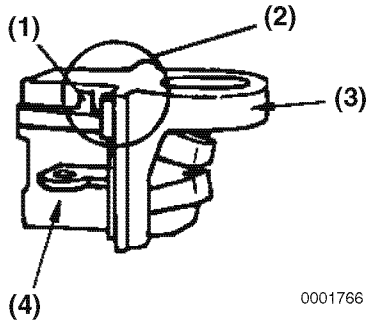

Figure 11-20
1. Insert the brush holder (**Figure 11-20, (4)**) tab (**Figure 11-20, (1)**) into the groove (**Figure 11-20, (2)**) in the holder cover (**Figure 11-20, (3)**).